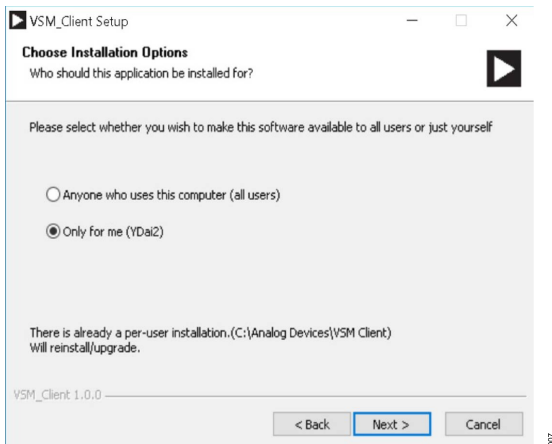

Figure 7. Choose Installation Options
3. Select **Only for me** and click **Next>** (see Figure 7). Do not select **Anyone who uses this computer (all users)** because this option can cause the installation to suspend or fail.